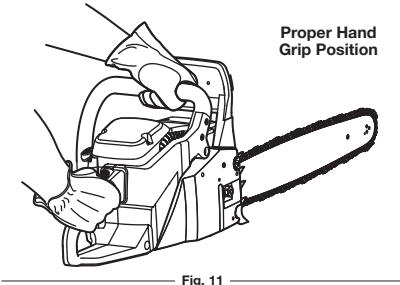

Fig. 11
- Hold the saw firmly with both hands. Always keep the left hand on the front handle and the right hand on the rear handle so that the operator’s body is to the left of the chain line (Fig. 11). Use these hand placements even if the operator is left-handed.